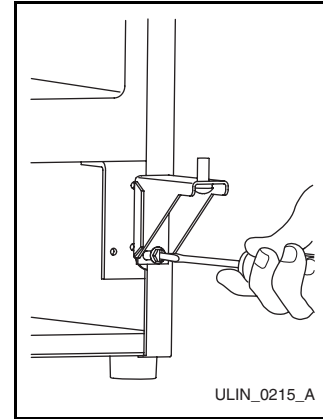

Figure 22
3. Remove bottom hinge from cabinet (two screws) (**Figure 22**).